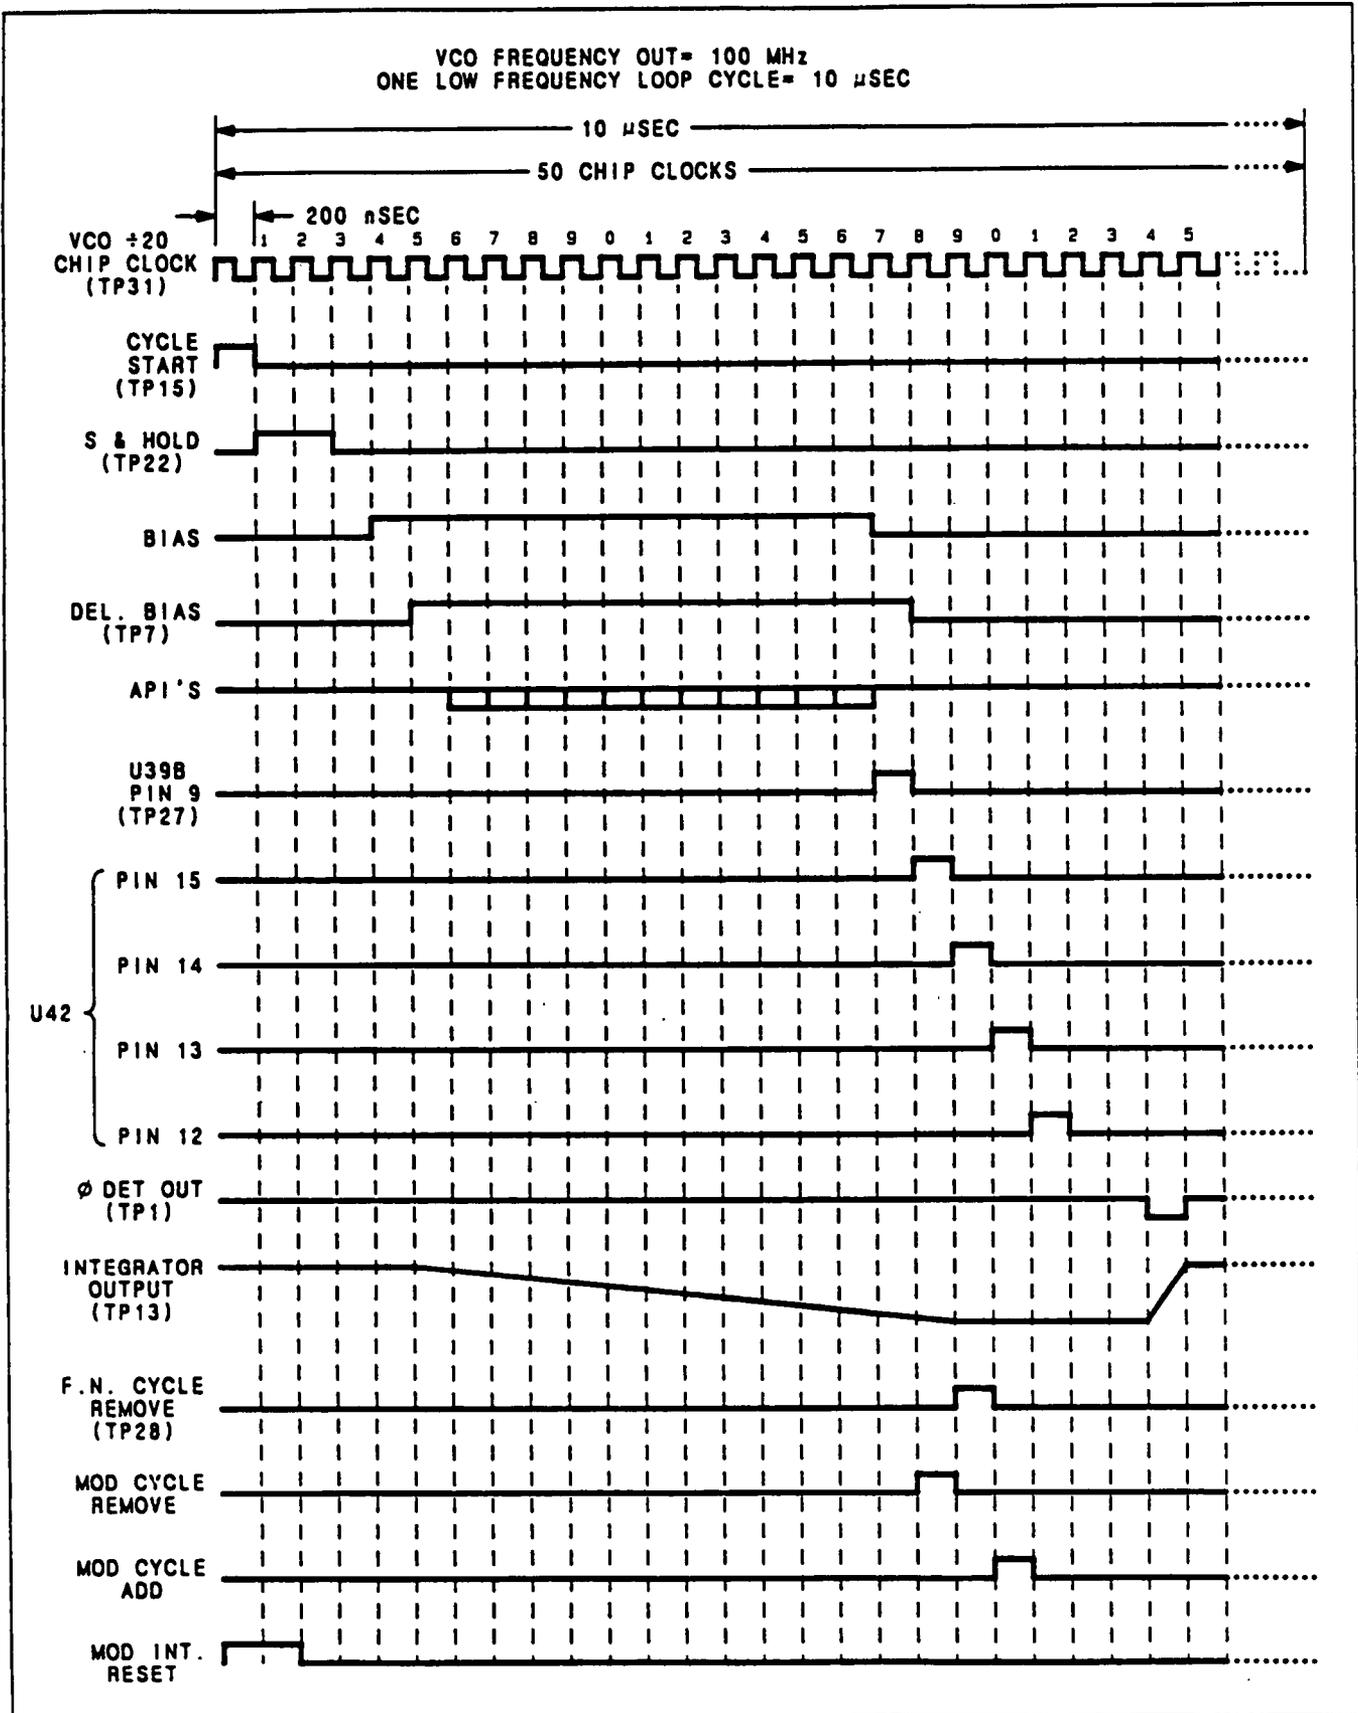

Figure 8. Low Frequency Loop Timing Diagram
Digital data is written from the main Microprocessor to the Low Frequency Loop Microprocessor when its frequency is changed, when frequency modulation (AC or DC) is selected, turned off, changed or calibrated. The digital data consists of instructions and data. Instructions select frequency modulation and controls when a frequency modulation calibration is performed. Instruction and data is sent from the Low Frequency Loop Microprocessor to the Fractional-N Controller which handles all instruction and data to lock the Low Frequency Frequency Loop at fractional frequencies (refer to the Low Frequency Loop Timing Diagram Figure 8). The Fractional-N Controller converts the data to its nine's compliment and transfers the data to the Divide-By-N Latches. The nine's compliment data is used by the Divide-By-N Counters, clocked by the Chip Clock output of the Prescaler, to generate the VCO Divide-By-N.F. 100 kHz pulse input to the Phase Detector. The output pulse of the Phase Detector determines the length of time Phase Detector current is active and the voltage output of the Loop Integrator. The output of the Loop Integrator is stored on the Sample and Hold Capacitor and corrects the output frequency of the VCO.
1. Check the Cycle Start pulse at A3TP15. Refer to Figure 8 Low Frequency Loop Timing Diagram. If the pulse is not present go to Service Sheet 11.
2. Check the voltage waveform output of the Integrator at A3TP13. Refer to Figure 8. If the waveform is not correct go to Service Sheet 12.
3. Check the Bias Control pulse at A3TP10. Refer to Figure 8 (Bias Pulse). If the pulse is not correct go to Service Sheet 11.
4. Check the API Control at A3TP7. TP7 should be Approximately +1 volt, one Chip Clock less than the Bias Pulse. Refer to Figure 8. If the pulse is not correct go to Service Sheet 11.